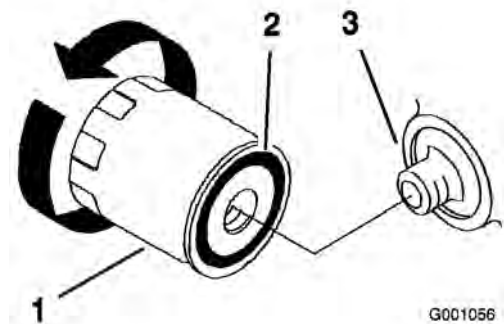

Figure 40
4. Apply a thin coat of new oil to the rubber gasket on the replacement filter (Figure 40).
5. Install the replacement oil filter to the filter adapter. Turn the oil filter clockwise until the rubber gasket contacts the filter adapter, then tighten the filter an additional 1/2 turn (Figure 40).